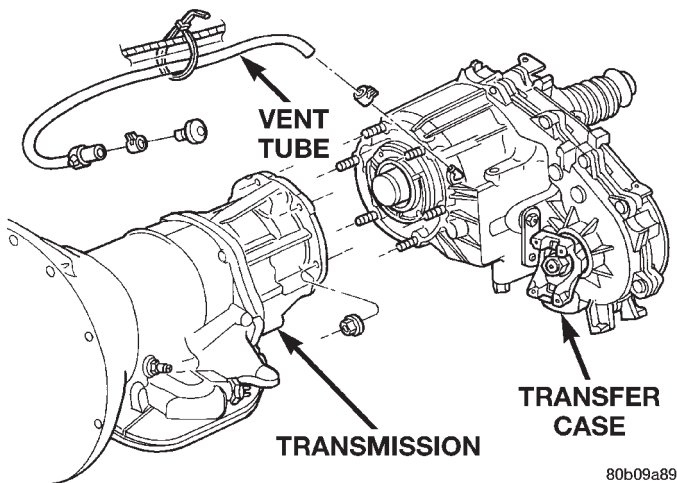

Fig. 2 Transfer Case Mounting
- (1) Shift transfer case into Neutral.
- (2) Raise vehicle.
- (3) Drain transfer case lubricant.
- (4) Mark front and rear propeller shaft yokes for alignment reference.
- (5) Support transmission with jack stand.
- (6) Remove rear crossmember, or skid plate.
- (7) Disconnect front/rear propeller shafts at transfer case.
- (8) Disconnect vehicle speed sensor wires.
- (9) Disconnect transfer case linkage rod from range lever.
- (10) Disconnect transfer case vent hose (Fig. 2) and indicator switch harness, if necessary.
- (11) Support transfer case with transmission jack.
- (12) Secure transfer case to jack with chains.
- (13) Remove nuts attaching transfer case to transmission.
- (14) Pull transfer case and jack rearward to disengage transfer case.
- (15) Remove transfer case from under vehicle.
- (1) Mount transfer case on a transmission jack.
- (2) Secure transfer case to jack with chains.
- (3) Position transfer case under vehicle.
- (4) Align transfer case and transmission shafts and install transfer case on transmission.
- (5) Install and tighten transfer case attaching nuts to 35 N·m (26 ft. lbs.) torque (Fig. 2).
- (6) Connect vehicle speed sensor wires, and vent hose.
(7) Connect indicator switch harness to transfer case switch, if necessary. Secure wire harness to clips on transfer case.
(8) Align and connect propeller shafts. Refer to Group 3, Differential and Driveline, for proper procedures and specifications.
(9) Fill transfer case with correct fluid. Check transmission fluid level. Correct as necessary.
(10) Install rear crossmember, or skid plate. Tighten crossmember bolts to 41 N·m (30 ft. lbs.) torque.
(11) Remove transmission jack and support stand.
(12) Connect shift rod to transfer case range lever.
(13) Adjust transfer case shift linkage.
(14) Lower vehicle and verify transfer case shift operation.